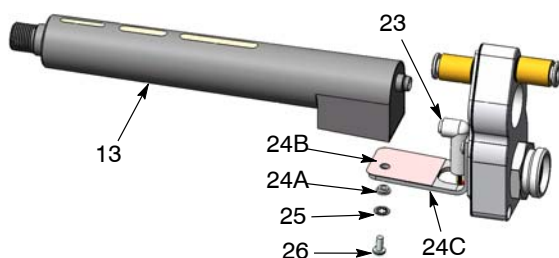
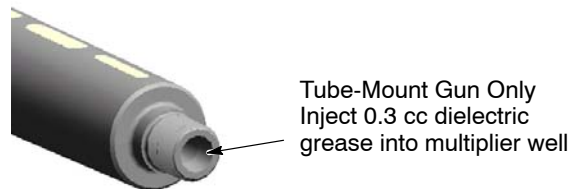

Figure 30 Replacing the Multiplier
Figure 34 Multiplier Well Greasing – Tube-Mount Gun
4. See Figure 30. Remove the screw (26) and lockwasher (25), then remove the multiplier (13) from the bracket (24C).
5. Disconnect the harness plug (23) from the multiplier.
1. See Figure 30. Connect the harness plug (23) to the multiplier (13).
3. Secure the multiplier to the bracket with the screw (26) and lockwasher (25).
4. Tube-Mount Gun Only: See Figure 34. Inject approximately 0.3 cc of dielectric grease into the multiplier well, so that it is about 75% full.
2. See Figure 34. Inject approximately 0.3 cc of dielectric grease into the multiplier well, so that it is about 75% full.